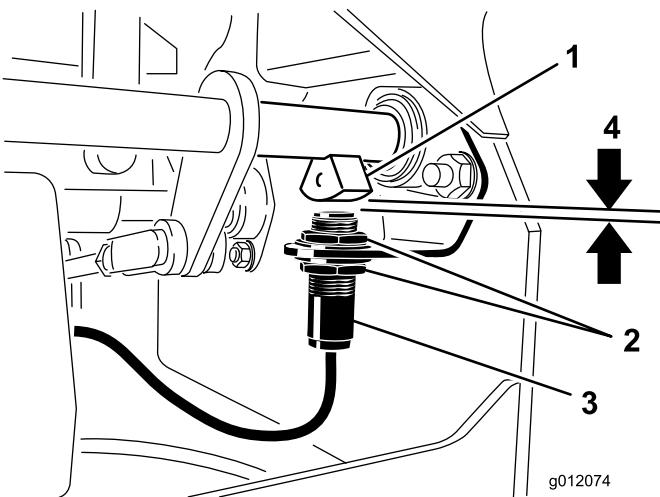

Figure 67
4. Move the switch up or down on the bracket until the distance between the brake shaft sensor and the switch surface is 3.9 mm (5/32 inch) (Figure 67).